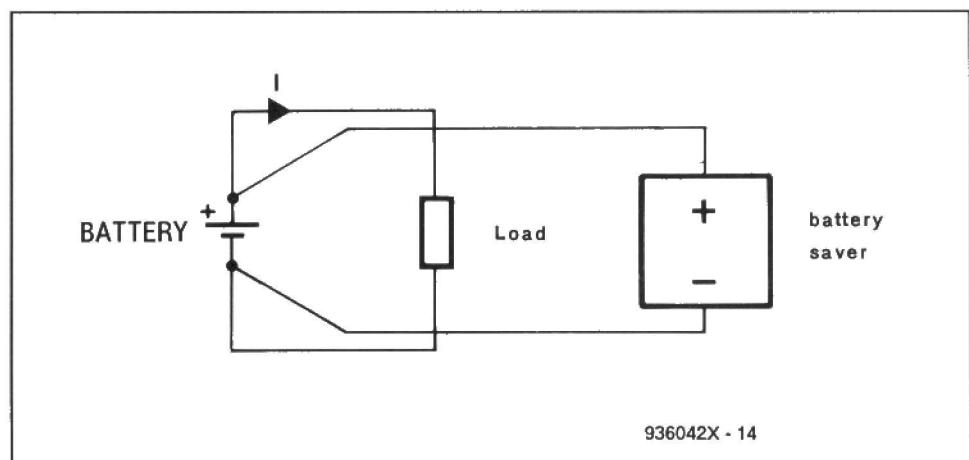

Fig. 4. The proper connection: the sense wires go directly to the battery terminals.
The use of 'sense' lines requires a separate discussion, which is aided by the drawings in **Fig. 3** and **Fig. 4**. In **Fig. 3**, the battery monitor 'sees' the voltage across the load. At first glance, this voltage is equal to the battery voltage, but there is a snag. Assuming that the wires between the battery and the load have a resistance of about 0.5Ω , and the load draws a current of 1 A, the cable 'drops' 0.5 V. The voltage applied to the monitor circuit is, therefore,
0.5 V lower than the battery voltage, causing the load(s) to be disconnected too early. In **Fig. 4**, the circuit
Connect the circuit to the load(s) and the battery as indicated in Fig. 4. If you want the LEDs and the press-key on your car dashboard, they must be connected via wires if the battery